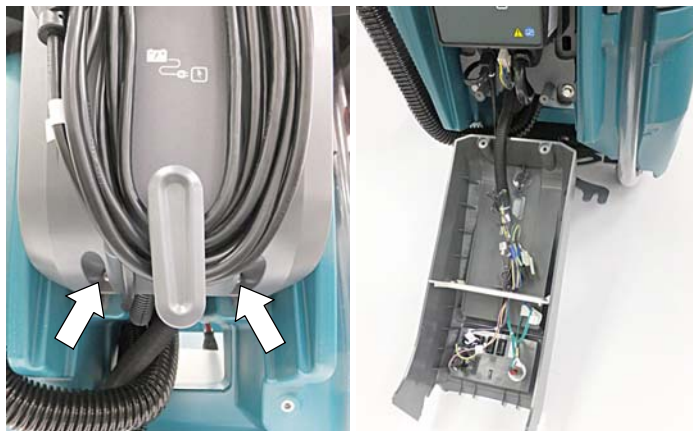

Fig. 9
- Remove the two lower torque screws at bottom of control console and carefully lower console cover as shown (Figure 9)